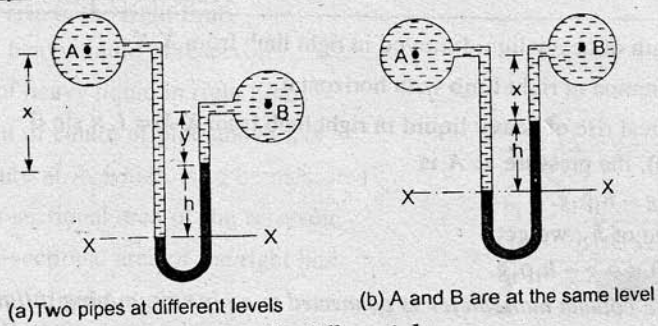

Fig. 2.18 U-tube differential manometers.
2.7.1 U-tube Differential Manometer. Fig. 2.18 shows the differential manometers of U-tube type.
Fig. 2.18 (a). Let the two points A and B are at different level and also contains liquids of different sp. gr. These points are connected to the U-tube differential manometer. Let the pressure at A and B are p_A and p_B .